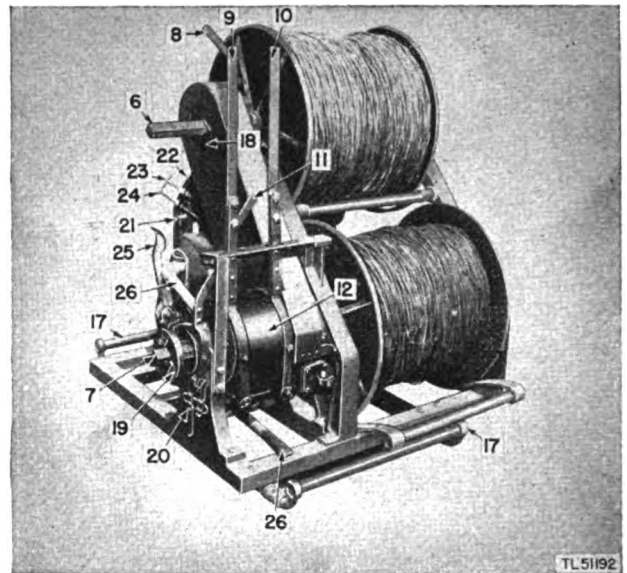

Figure 4. Reel Unit RL-26 with two Reels DR-5 installed.
a. REEL UNITS RL-26 AND RL-26-A (fig. 1). Reel Units RL-26 and RL-26-A consist of a framework upon which are mounted: a gasoline engine; axles (6) and (7) (also called "reel shafts") for two Reels DR-5; transmission features incorporating clutches which can be operated by hand levers (8), (9), (10), and (11) for connecting the engine shaft to the reel axles; two loading cradles (3) and (4) to facilitate the removal and insertion of the reels. The relative locations of the two reels are shown in figure 4.
are designed to receive and drive Reel DR-5. These axles are provided with dirtproof bearings. The axle is inserted through the square hole in the bearing, through the square hole in the reel, and through the opposite bearing. The axle is held in this position by a spring-operated latch which engages a recess in the square axle shaft. The axle is beveled at one end to facilitate the insertion through the various square holes. Before either reel axle can be removed it is necessary to disengage the retaining latch. The latches referred to are shown in figures 4 and 8 as (18) and (19). The tool (20) facilitates withdrawal of the reel axles.